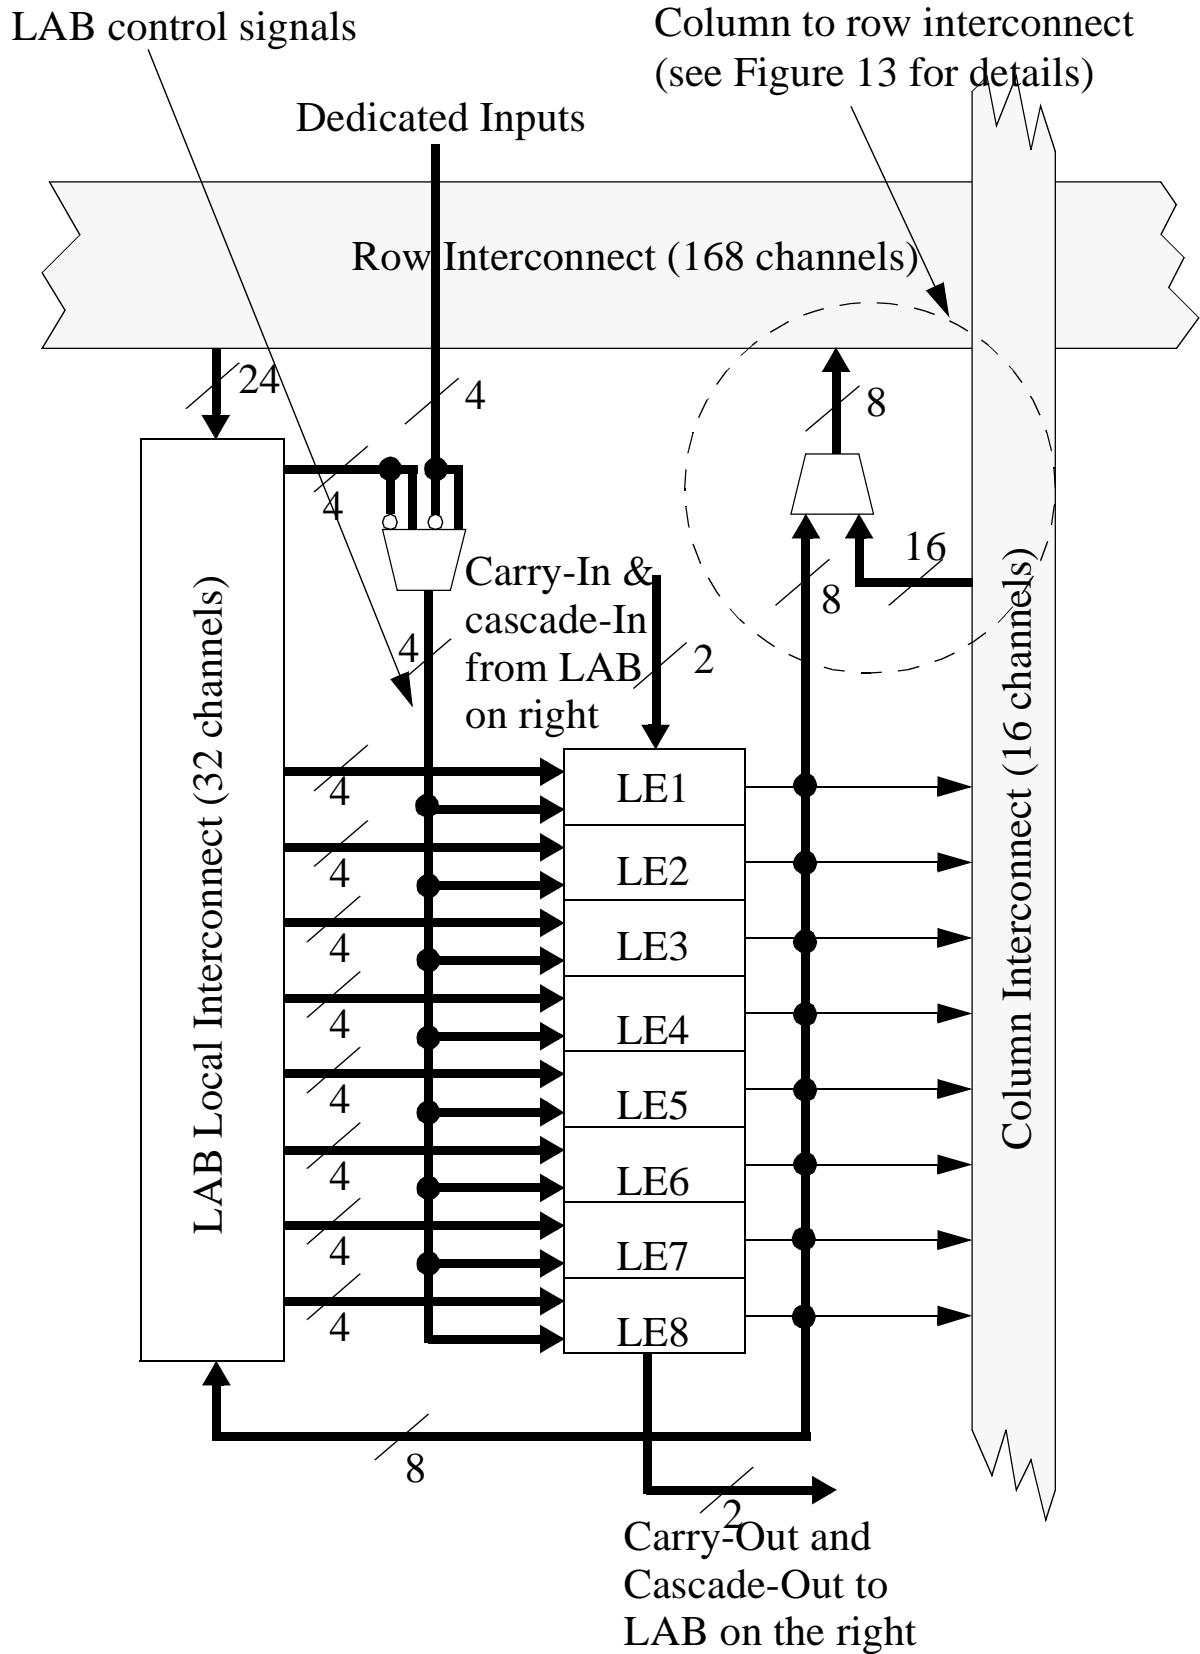

Figure 12 : Logic Array Block
- See Figure 12 for a block diagram of the logic array block.